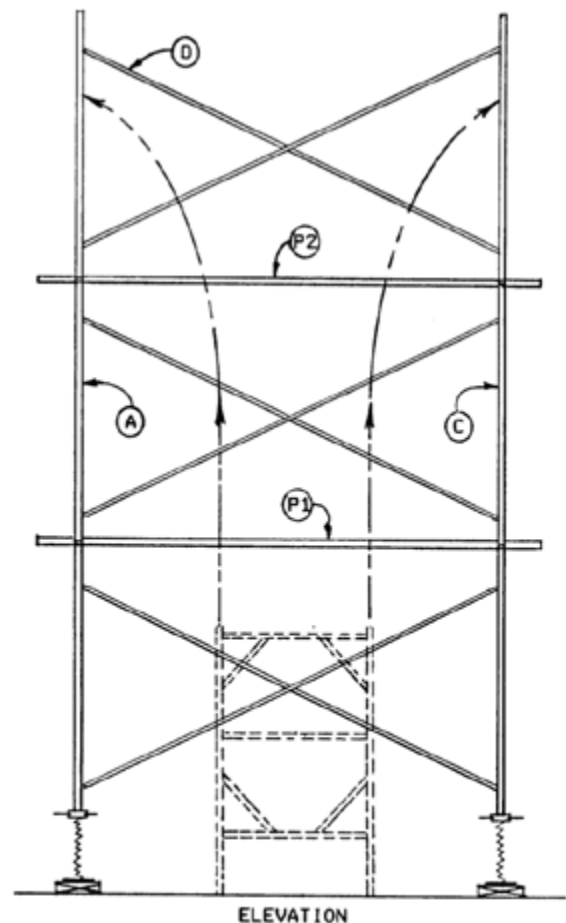

Fig. 38
12. Repeat steps until tower reaches the designed configuration. However, from lift 3 to the maximum height, raise the frames from inside the tower to avoid eccentric loads that could cause tipping of the tower (Fig. 38). At the top of the tower, install screw jacks and U-Heads as needed.